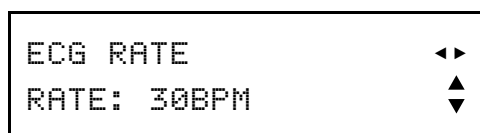
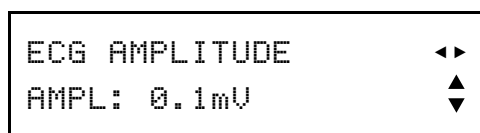
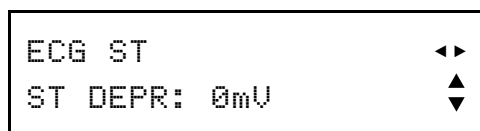

Figure 13- ECG RATE
Figure 14- ECG AMPLITUDE
Figure 17- ECG ADVANCED: ST SEGMENT
Press the ECG(1) button to change the LCD display to that of **Figure 13**, the ECG Rate Menu.
While viewing the display of **Figure 13**, pressing the RIGHT (▶) arrow button once will change the display to that of **Figure 14**, the ECG Amplitude Menu.
Pressing the RIGHT (▶) arrow button again will restore the LCD display to the initial menu screen of **Figure 13**.
Pressing the ADV(7) button while viewing the ECG menu will change the screen to that of **Figure 17**, the ST Segment Menu. To return to the Normal ECG menu, press the ECG(1) button and the screen will return to that of **Figure 13**.
If an ST elevation or depression is selected on the menu of **Figure 17**, pressing ENTER overrides the current ECG RATE setting and automatically changes the rate to 80 BPM. This rate override occurs even if ECG ST is set to 0 mV. To restore the original rate, press the ECG button to view the rate, then press ENTER. This will cancel the simulation of ST elevation or depression and return the ECG to NSR.
Pressing the RIGHT (▶) arrow button will restore the LCD display to the initial menu screen of **Figure 17**.